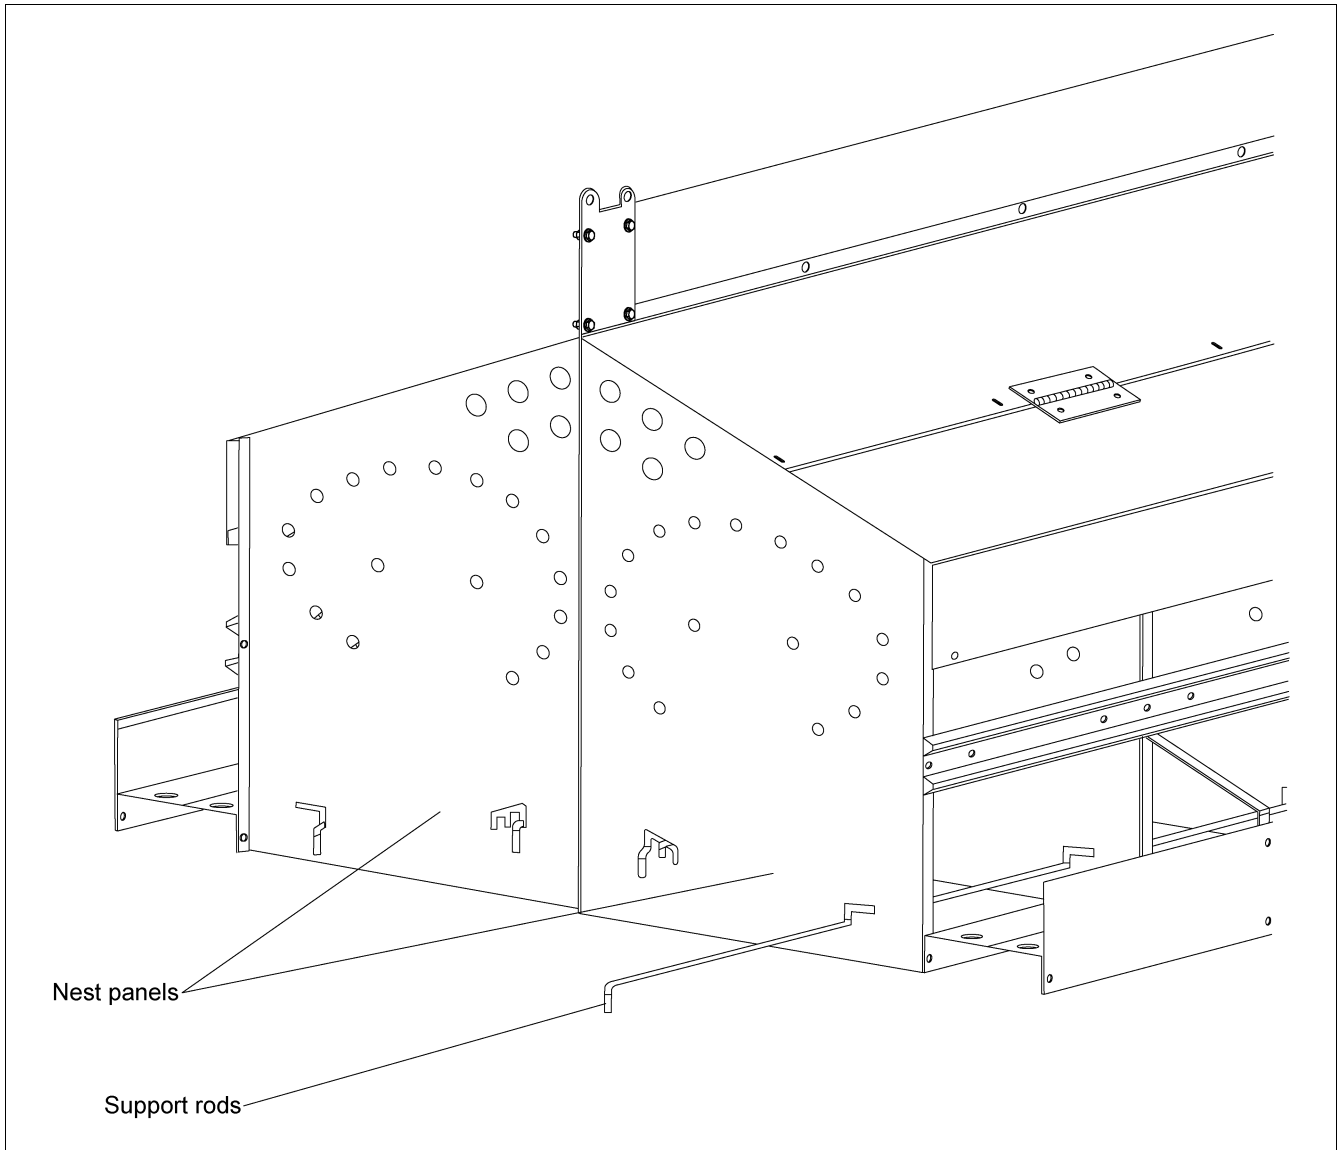

Figure 4K Nest Bottom Support Rod Assembly
8. Insert four (4) nest bottom support rods through all nest panels as shown in Figure 4K. “Lock” the rods in position by seating the rods into the desired slot in all nest panels.